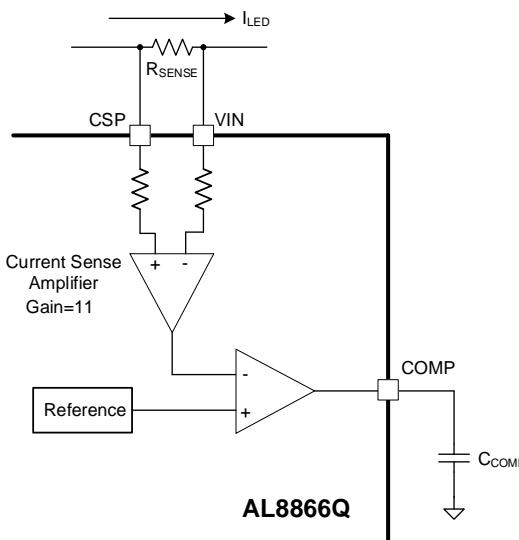
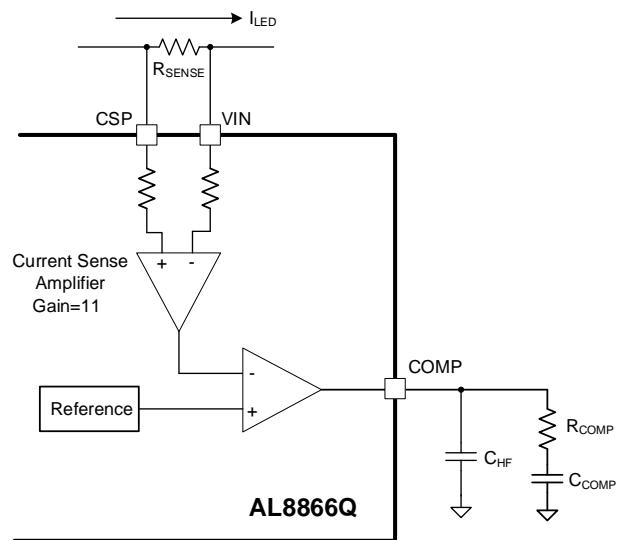

Figure 20 Integral Compensator
Figure 21 Proportional Integral Compensator
The feedback transfer function includes the current sense resistor and the loop compensation of the transconductance amplifier. A compensation network at the output of the error amplifier is used to configure loop gain and phase characteristics. A simple capacitor, C_{COMP} , from COMP to GND (as shown in Figure 20) provides integral compensation and creates a pole at the origin. Alternatively, a network of R_{COMP} , C_{COMP} , and C_{HF} , shown in Figure 21, can be used to implement proportional and integral (PI) compensation to create a pole at the origin, a low-frequency zero, and a high-frequency pole.